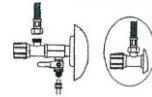

FIGURE A-2
2. After draining the remaining water in the pipes, install feedwater connection adapter (3-way adapter) by fastening with teflon band (Figure A-2)